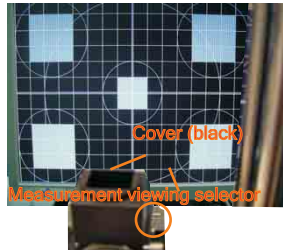

Fig. 2
-Set measuring/viewing selector to measuring position for reset analyzer.(zero calibration) as Fig.2